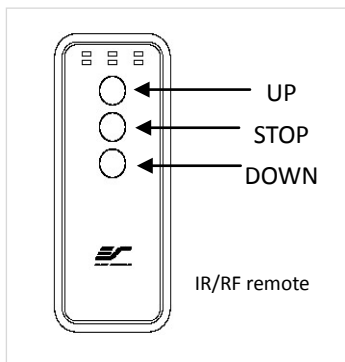
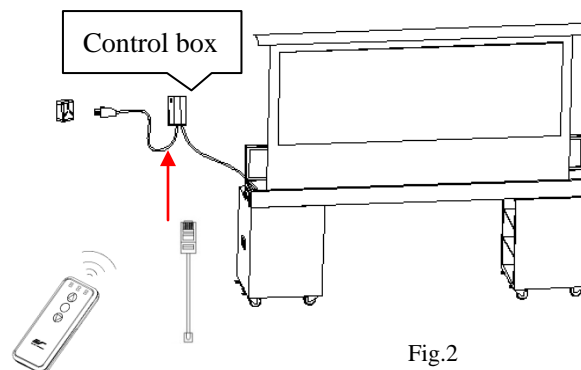

Fig.1
Fig.2
- 1) **IR remote control (Item A) and IR "Eye" Receiver (Item E)** : The IR remote control (fig.1) requires line-of-sight to the IR sensor. The IR "eye" receiver must be connected to the Remote Control Wall box in order for the IR remote control to function. The IR "Eye" Receiver plugs directly into the screen's RJ-45 input (fig.2).